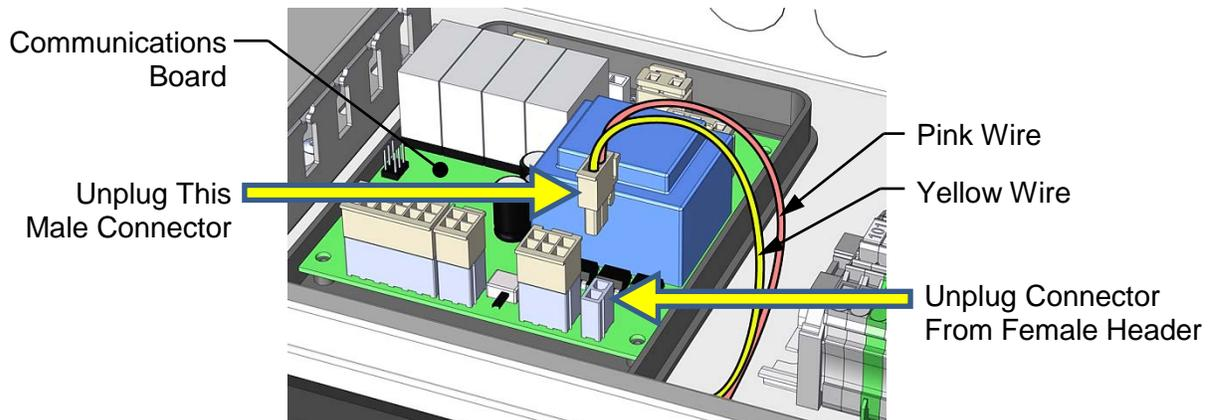

Figure 1-8: Removing 2-Wire Male Connector from Communications Board
2. Disconnect the 2-wire (pink/yellow) plug from the communications board (See Figure 1-8).